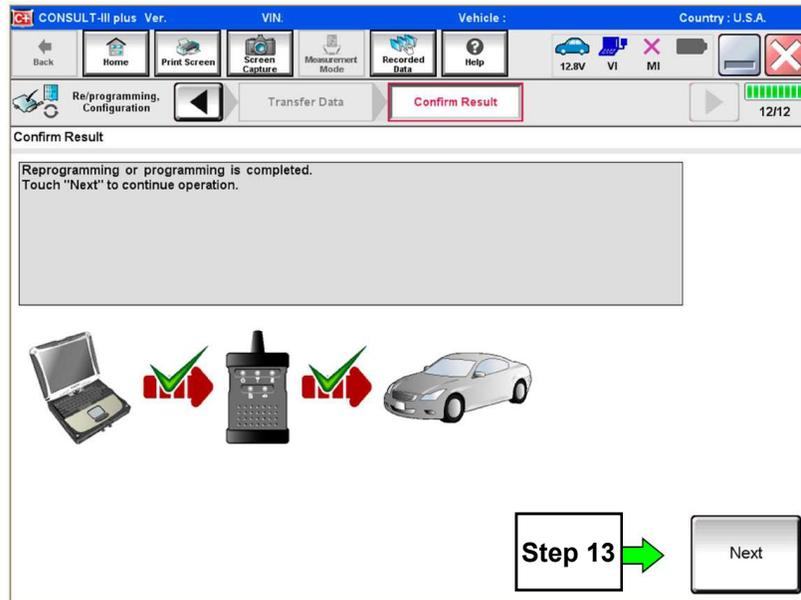

Figure 6
11. When the screen in Figure 6 displays, reprogramming is complete.
NOTE: If the screen in Figure 6 does **not** display (reprogramming did not complete), refer to the ECM Recovery information on Page 9.